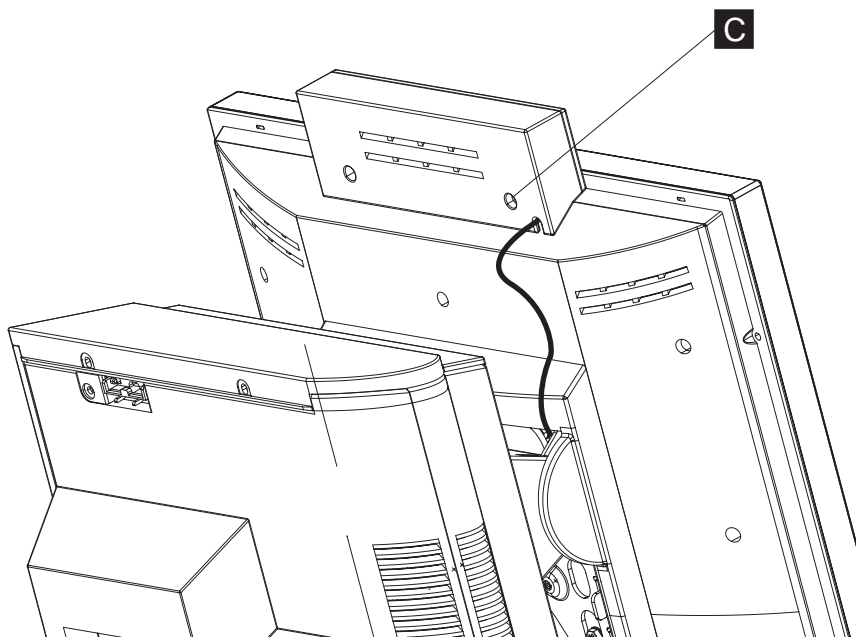

Figure 56. Installing the antenna enclosure
3. See **C** in Figure 56. Insert the two screws into the back of the antenna-enclosure assembly and tighten to fasten the unit to the top of the display.